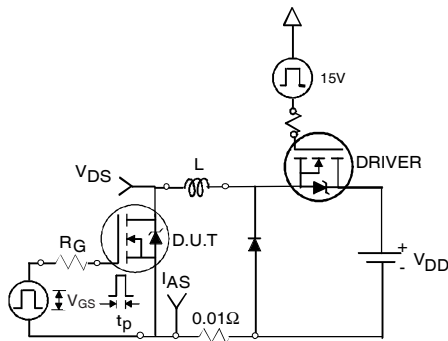

Fig 12a. Unclamped Inductive Test Circuit
- ③ Pulse width $\leq 1.0ms$; duty cycle $\leq 2\%$.
- ④ $C_{oss\text{ eff.}}$ is a fixed capacitance that gives the same charging time as C_{oss} while V_{DS} is rising from 0 to 80% V_{DSS} .
- ⑤ Limited by T_{Jmax} , see Fig.12a, 12b, 15, 16 for typical repetitive avalanche performance.
- ⑥ This value determined from sample failure population. 100% tested to this value in production.
- ⑦ This is applied to D²Pak, when mounted on 1" square PCB (FR-4 or G-10 Material). For recommended footprint and soldering techniques refer to application note #AN-994.
- ⑧ R_θ is measured at T_J of approximately 90°C .
- ⑨ Solder mounted on IMS substrate.
3. Equation below based on circuit and waveforms shown in Figures 12a, 12b.